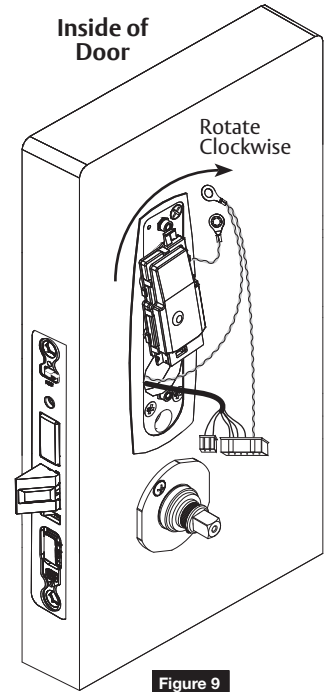

Figure 9
2. Press piece against door while turning clockwise (Figure 9).